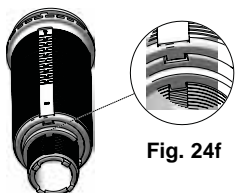

Fig. 24f
- Refit the snap ring so that it is positioned in the groove provided for this. (**Fig 24f**).